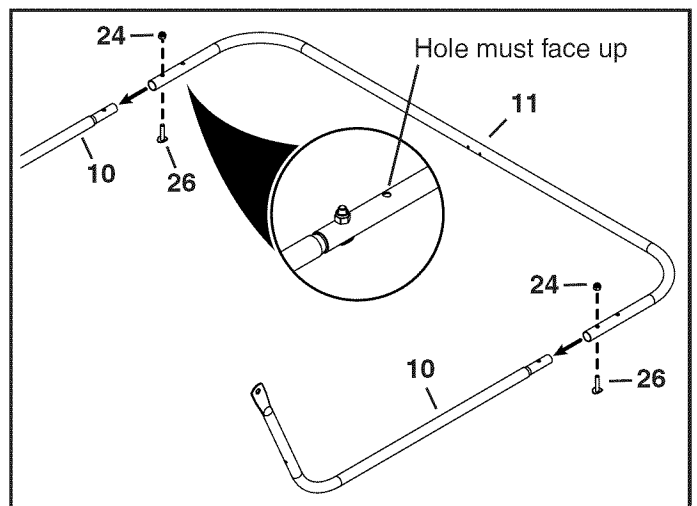

**FIGURE 6**
**STEP 6: (SEE FIGURE 6)**
- Attach the hitch bracket (12) and straight hitch bracket (13) to the drawbar using two 5/16" x 2-1/2" hex bolts (15) and 5/16" nylock nuts (21).
- Assemble the hitch pin (35) and two spacers (22) to the hitch brackets. Secure them in place with the large 3/32" hairpin cotter (18).